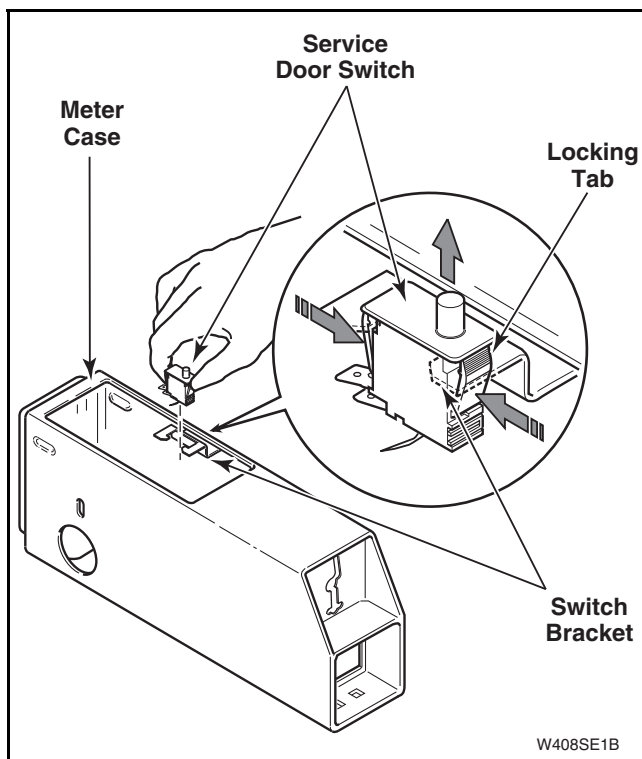

Figure 48
- (1) Unlock and open service door.
- (2) Disconnect wire harness from coin drawer switch and disconnect coin drop at disconnect plugs.
- (3) Press in on locking tabs of service door switch and remove switch from bracket on meter case, as shown in *Figure 48*.